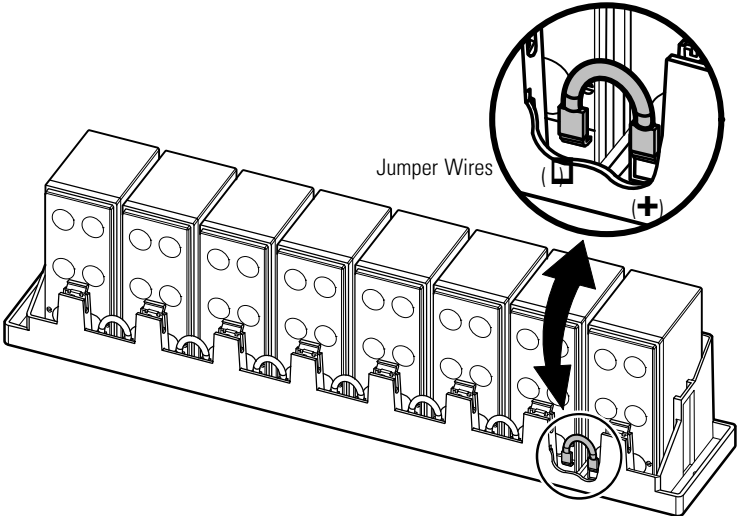

Figure 3. Connecting the Battery Jumper Wires
- 5. Connect seven jumper wires between the batteries in each tray (see Figure 3).